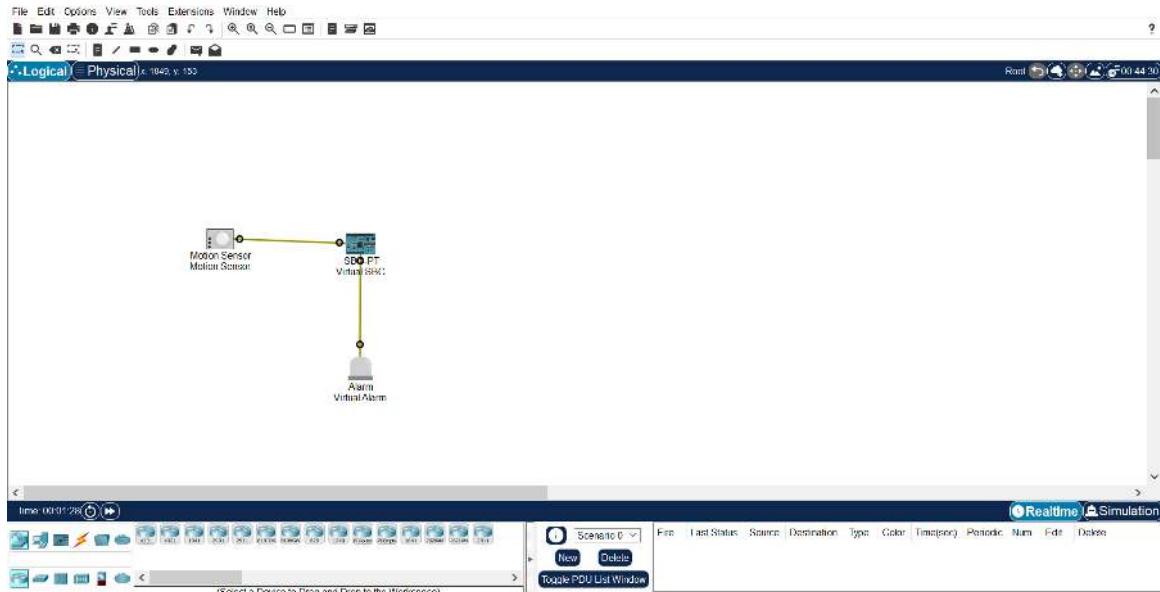

Figure 11.6: Virtual World.
2. Connect the following using IoT Custom Cable (Figure 11.6):